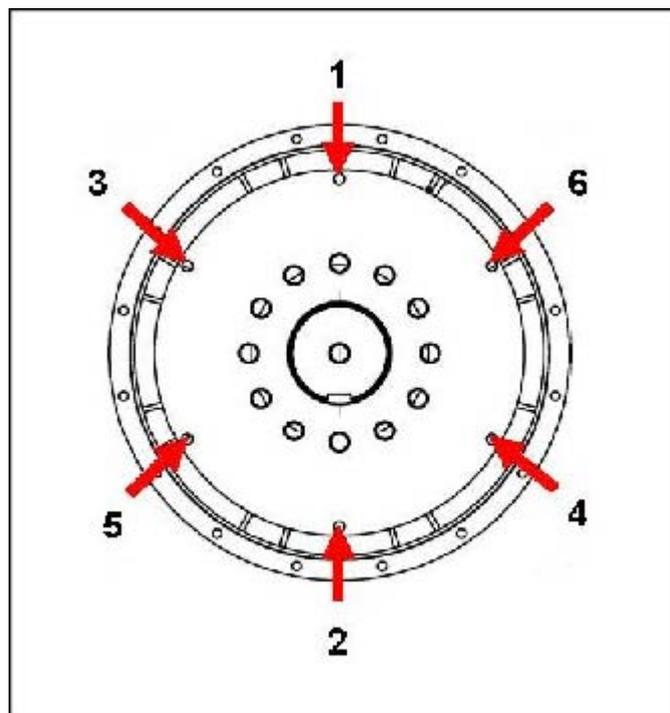

FIGURE 23. FIXING SEQUENCE TO FLYWHEEL
10. Tighten the bolts to fix the coupling disc to the flywheel, in the sequence shown in Figure 23 on page 40